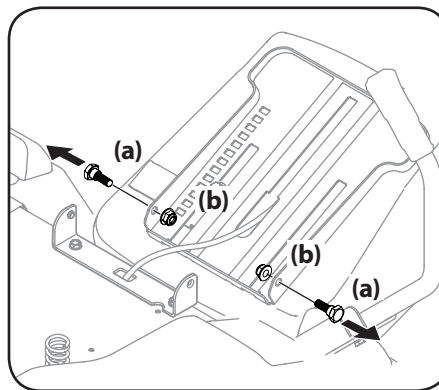

Figure 2-2
2. Remove the two shoulder screws (a) and lock nuts (b) in the seat pan as shown in Figure 2-2.